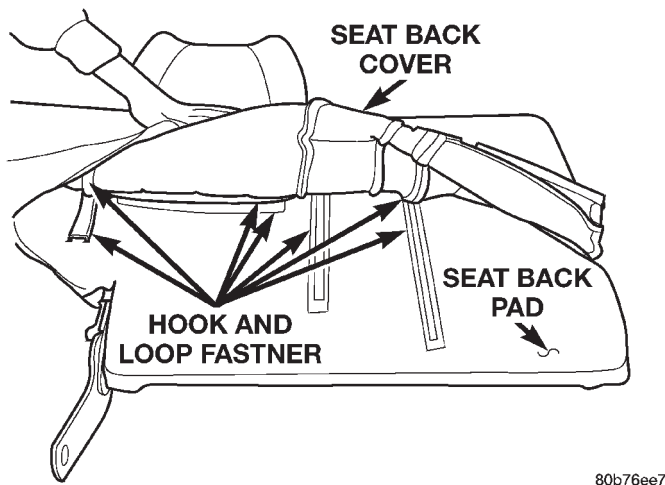

Fig. 13 Rear Seat Back Cover
- (1) Remove seat back.
- (2) Remove head restraint.
- (3) Remove head restraint caps.
- (4) Disengage J-straps on outboard side of seat back.
- (5) Disengage J-straps at base of seat back.
- (6) Remove screws attaching latch release handle to seat back frame.
- (7) Roll seat back cover upward.
- (8) Disengage hook and loop fasteners attaching seat back cover to seat back pad (Fig. 13).
- (9) Roll seat back cover upward and route latch release handle through seat back cover.
- (10) Separate seat back cover from seat back.
- (11) Separate seat back pad from seat back frame.